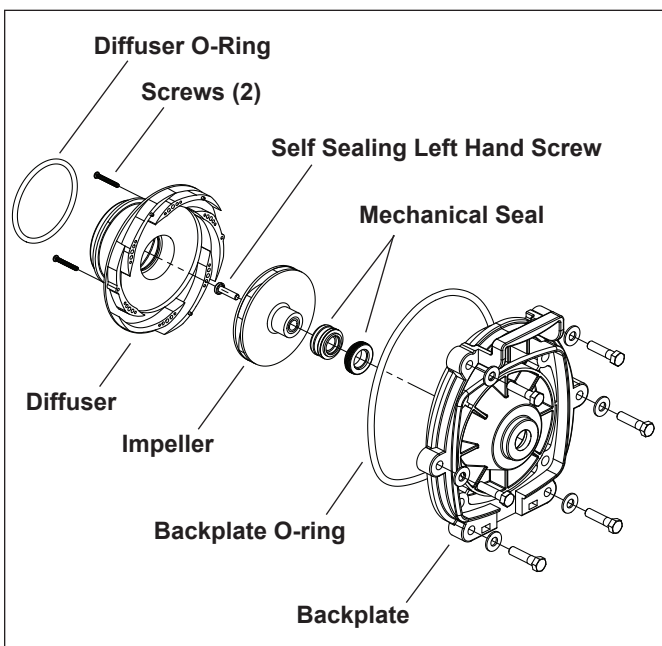

Figure 10. Diffuser and Impeller Exploded View
10. Inspect the impeller and diffuser for signs of rubbing and/or damage. See Figure 10.